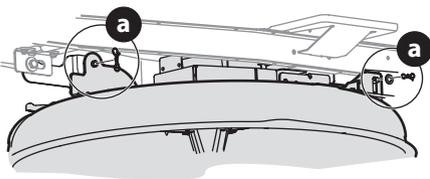

Figure 19
5. Remove the remaining bow-tie cotter pins (a) securing the deck to the riding mower (Figure 19).
5. Secure the deck to the deck lift arms using two bow-tie cotter pins (a) (Figure 19).
NOTE: The bow-tie cotter pins (a) should be installed from the top down (Figure 19).